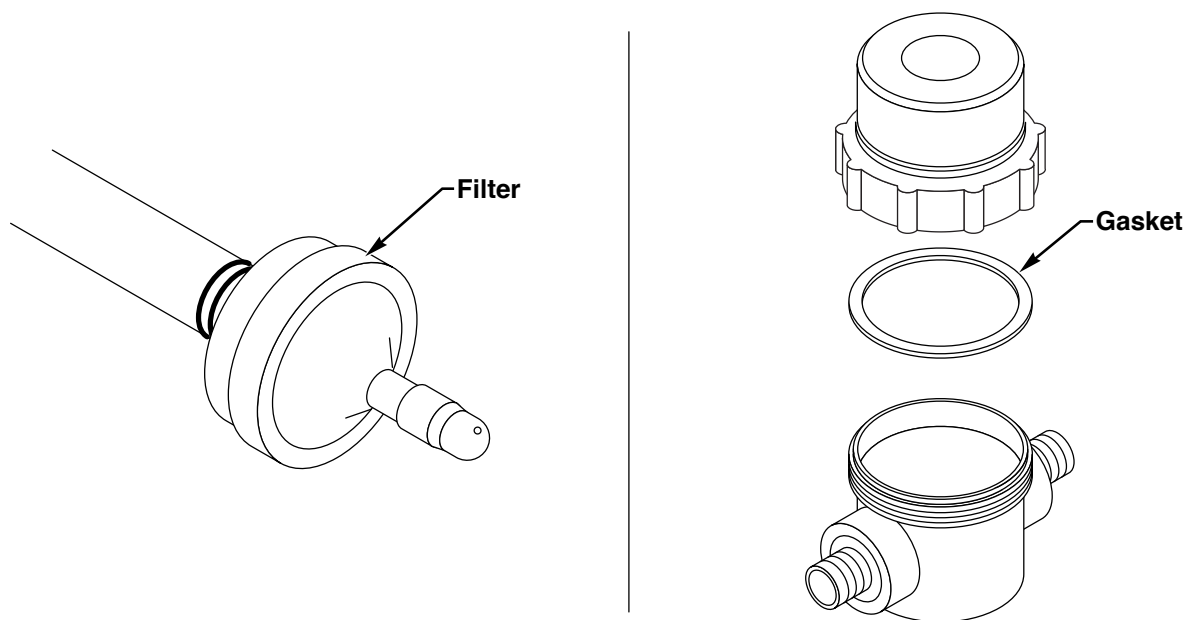

Figure 12- In-Line Gasoline Filter/Pulsation Damper
- Replace the in-line gasoline filter. Using pliers, loosen the tension on the two hose clamps and slide them off of the filter barbs. Remove the old filter from the gasoline hose. Install a new filter and replace the hose clamps. New filters can be installed with the direction of flow going either way. Never reverse an old filter. Reference Figure 12.
- Check the pulsation dampers. The metering pump used on the fog generator tends to deliver a slightly pulsating flow of insecticide. For best aerosol particle size, a more even (non-pulsation) flow is desirable. A small air chamber pulsation damper is located in the metering pump outlet line between the pump and the discharge nozzle. It is a nylon assembly with an air dome that can be unscrewed by hand for inspection. There is a gasket that seals the joint between the air dome and the lower housing. The air dome should be checked periodically to make sure that it has not become filled with insecticide. If the dome has no air in it, it will not function as a pulsation damper. When reassembling, be sure that the sealing gasket is properly positioned so as to avoid damage caused by pinching. Applying a light coat of oil or grease will prevent pinching the gasket. Tighten the housing only hand tight when reinstalling. Do not use tools. Reference Figure 12.